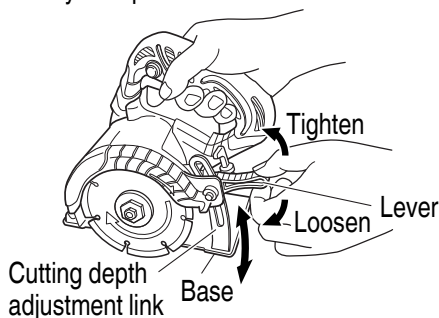

Fig. 1
6. Cutting depth adjustment (**Fig. 1**)